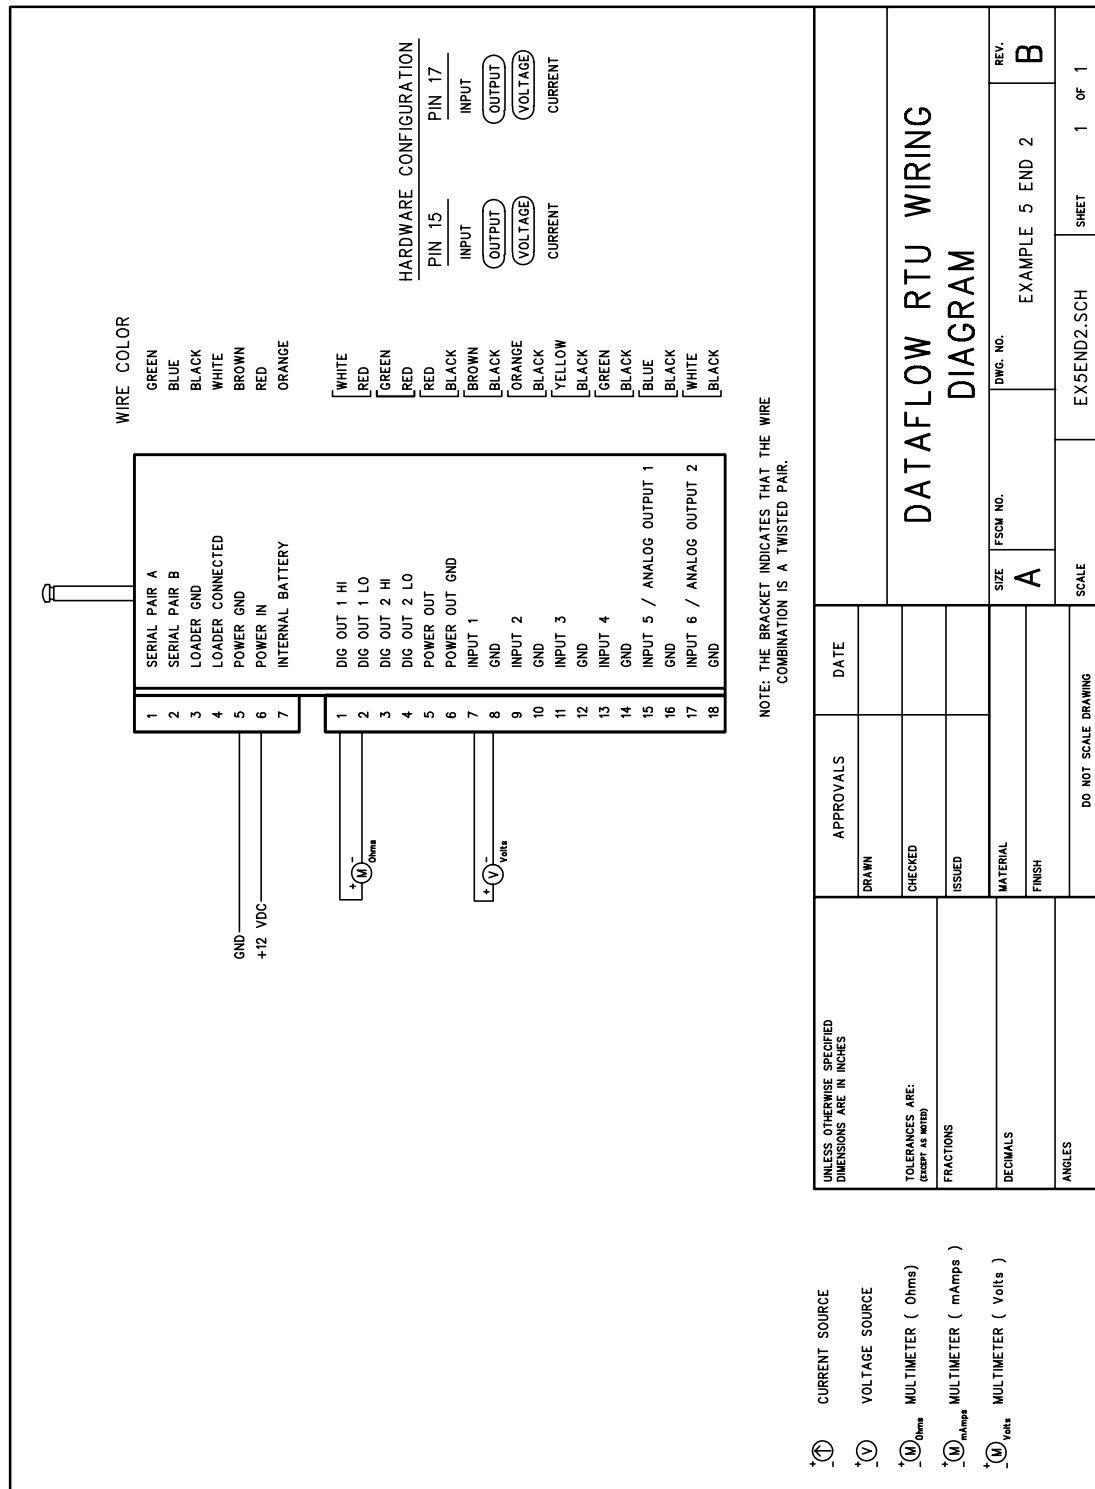

Figure B9 - EXAMPLE 5 RTU ID 2 Wiring Diagram
- 8.6.1 RTU ID 1 SETUP: Example 5 requires one **DATAFLOW RTU** to be wired and its hardware configured according to Figure B9 - EXAMPLE 5 ID 1 Wiring Diagram on page B-33. Load Software Programming configuration file **EXP5ID1.USR** into RTU ID 1.